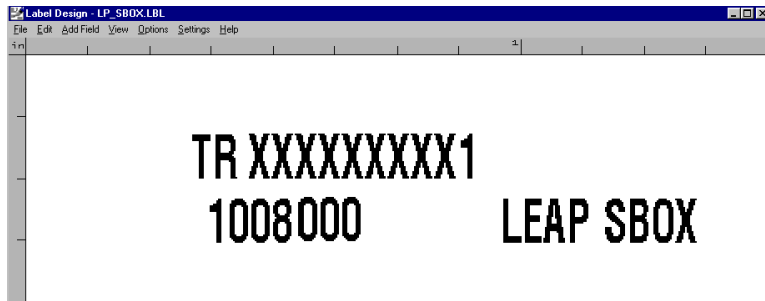

Figure 1-17
1.19. Click outside the box, and all the fields will be deselected. (Figure 1-17)